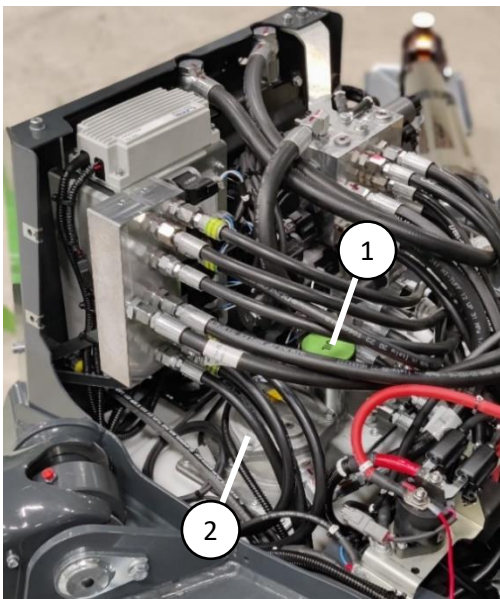

Figure 22. Hydraulic oil tank
Hydraulic oil change can be done either from the suction filter or through the hydraulic oil tank cap (figure 22 (1)) with a suction pump. The suction filter is located in the bottom of the chassis behind the service hatch (figure 23). Hydraulic oil can be drained by detaching the backup pump hose (figure 23 (1)) from the suction filter.
Hydraulic oil return filter (figure 22 (2)) is located on top of the hydraulic oil tank at the rear of the chassis. The filter change is done by opening the lid of the filter case and replacing the filter cartridge with a new one. Make sure there are no leaks before installing the covers back to the machine.
Hydraulic oil level can be checked with the dipstick in the filter cap (figure 22 (1)). Oil level should be at the upper mark in the dipstick when the access platform is in transport position (booms down and outriggers completely up).